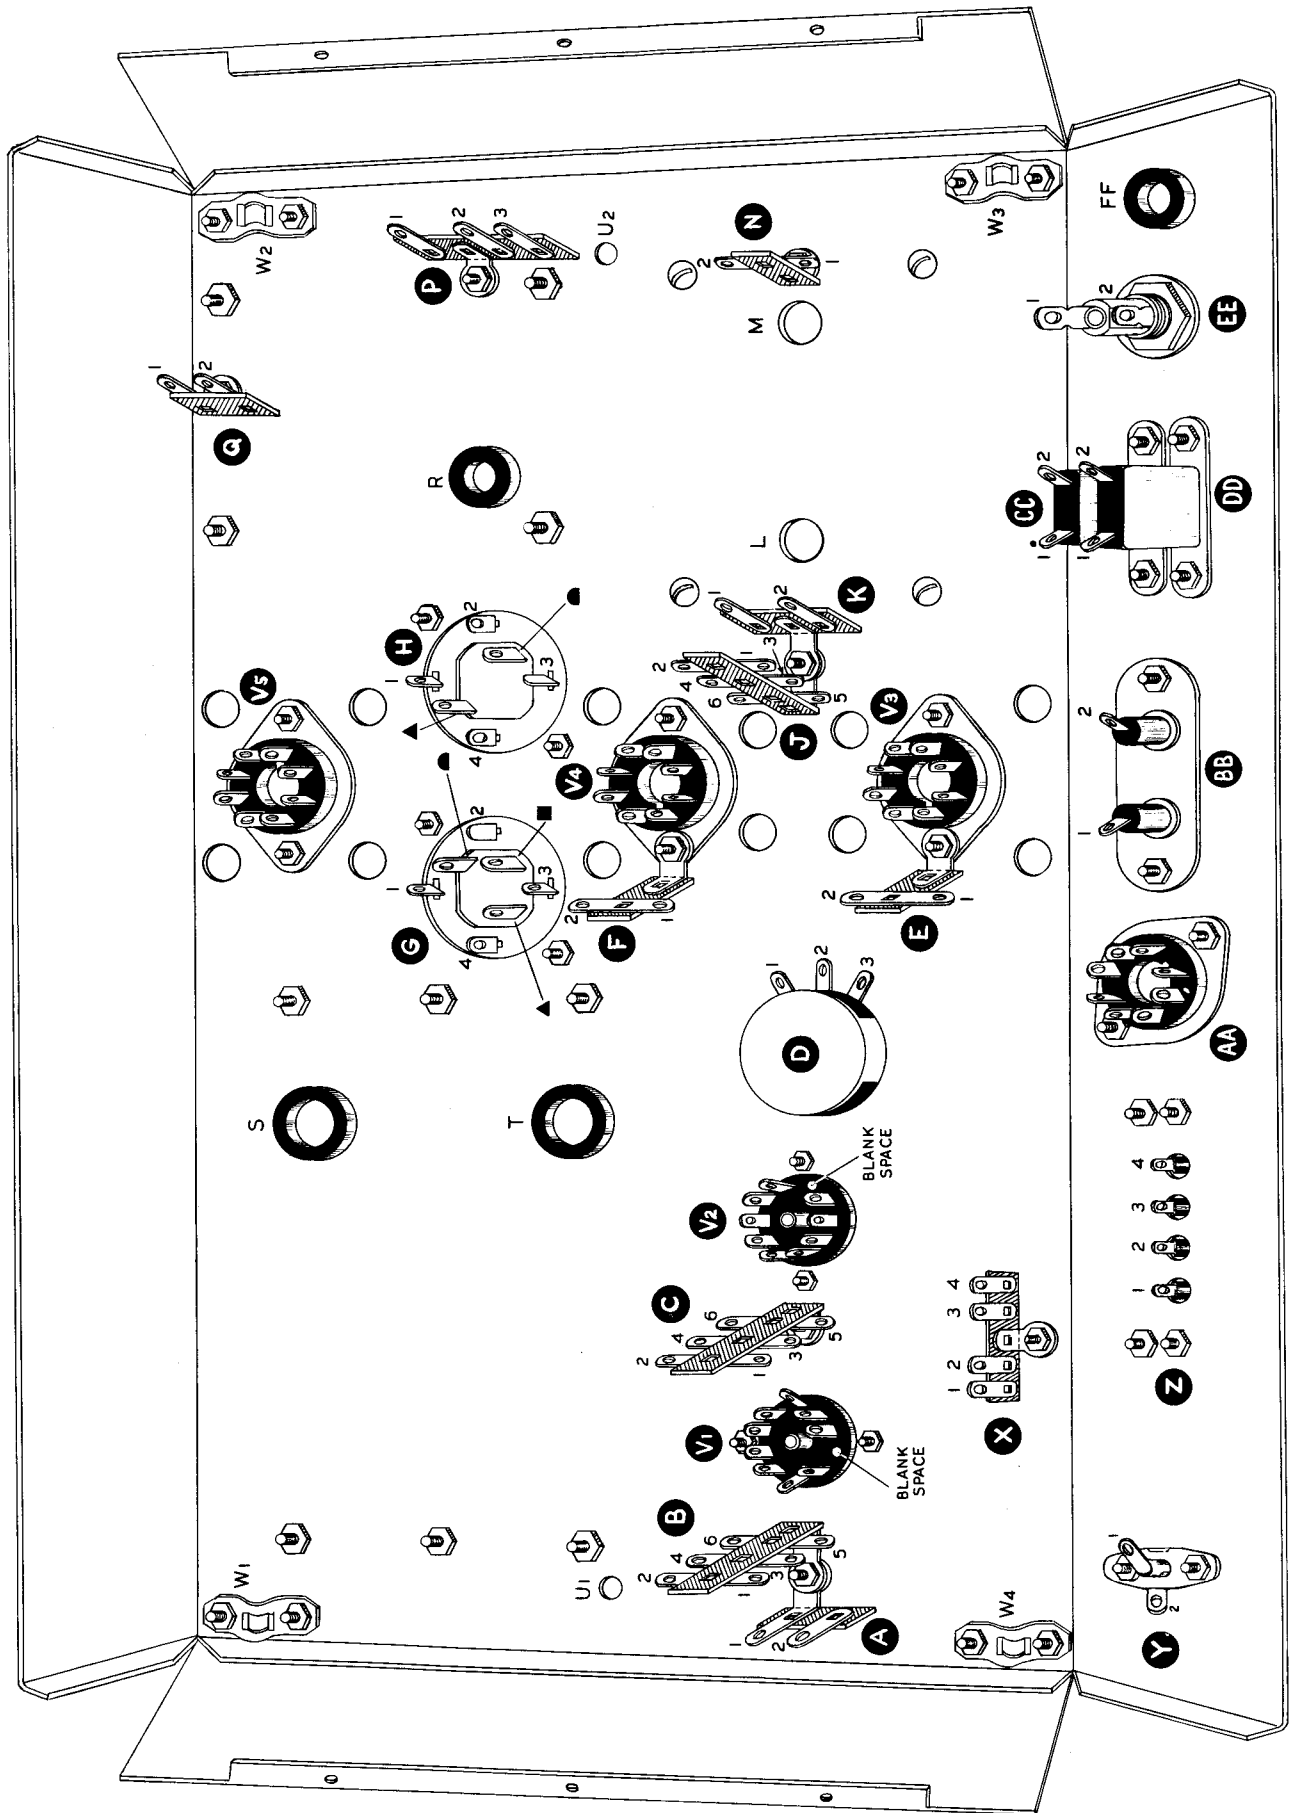
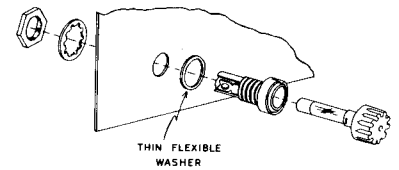
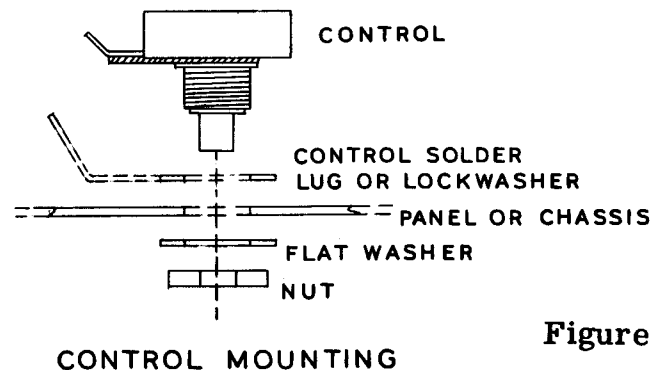

Figure 8
Figure 9
Figure 10
(-) Place the chassis with the open side up in front of you on your workbench. Be sure that the apron with the holes in it is nearest you. See Figure 8 on Page 13.
(-) Mount a 9-pin miniature tube socket at location V1, using 3-48 hardware with lockwashers. Use the chart on Page 32 to identify hardware sizes if necessary. The body of the socket should be outside the chassis, with the lugs extending up through the socket hole. Orient the socket so the blank space is positioned as shown in Figure 8.
(-) Install an octal socket at V3, using 6-32 hardware. Be sure that a 1-lug terminal strip is mounted on one screw as shown in Figure 8. Position the keyway of this socket to the left as shown.
- () Install one dual-lug terminal strip N as shown in Figure 8. Use 6-32 hardware.
- (+) Following Figure 9, mount the fuse holder at EE. Position the contact lugs as shown in Figure 8. Install the fuse in the holder.
- (-) Install the 300 Ω "Bass-Bal" control at D. Follow Figure 10 for assembly details and orient terminals as shown in Figure 8.
- () Now install 2-lug terminal strip Q, placing a 6-32 screw through the choke flange, chassis and strip bracket, as shown in Figure 8.
- (-) Identify the 20-20-20 μ fd 450 volt filter condenser. This is the metal can with three terminals protruding through the insulating wafer at one end. Note that each terminal is identified by a symbol punched through the insulator adjacent to the lug. Orient these terminals as shown in Figure 8, slip the four mounting lugs through the slotted holes in the wafer at G. Then twist each lug approximately 45° to secure the condenser to the wafer. Be sure the condenser is held firmly against the wafer while twisting the lugs.
- () In the same way, mount the 40-40 μ fd 450 volt filter condenser at H. Again, orient the lugs as shown in Figure 8 before twisting the mounting tabs.